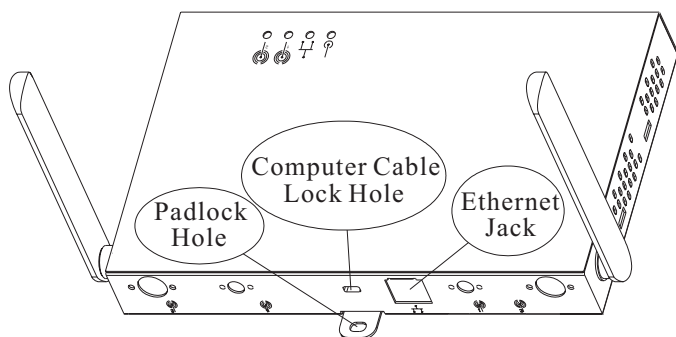
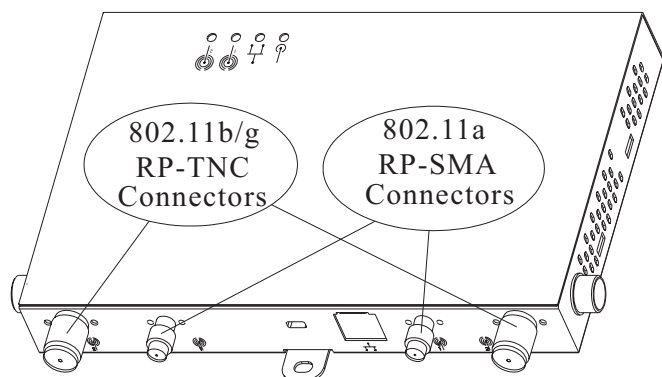

Figure 1: Rear View of Altitude 300-2i™
Figure 2: Rear View of Altitude 300-2d™
Figure 2 shows the back of the external antenna model of the Altitude 300-2d™. Like the other model there is an Ethernet RJ45 jack, a standard computer cable lock hole and padlock hole. Connectors for external antennas are on the back of the unit. The two RP-TNC connectors attach to 802.11b/g antennas and the two RP-SMA connectors attach to 802.11a antennas. Two connections are provided for each radio to support signal diversity.
- 6 Connect the computer cable lock (optional). When the Altitude 300-2™ installation does not use the universal mounting bracket, the unit can be locked with a computer cable. The Altitude 300-2™ has a standard computer cable lock hole located at the rear of the box, see Figure 1: Rear View of Altitude 300-2i™ on page 14, or Figure 2: Rear View of Altitude 300-2d™ on page 14.
- 7 Connect the external antennas, Altitude 300-2d™. For the Altitude 300-2i™ skip to step 8. The Altitude 300-2d™ has connectors for external antennas, see Figure 2: Rear View of Altitude 300-2d™ on page 14. The access unit should be located within the reach of the antenna's cables. The large RP-TNC connectors are used for 2.4 GHz 802.11b/g antennas and the small RP-SMA connectors for 5 GHz 802.11a antennas. Two connectors of each type are supplied to support spatial diversity. When this step is completed go to step 10.